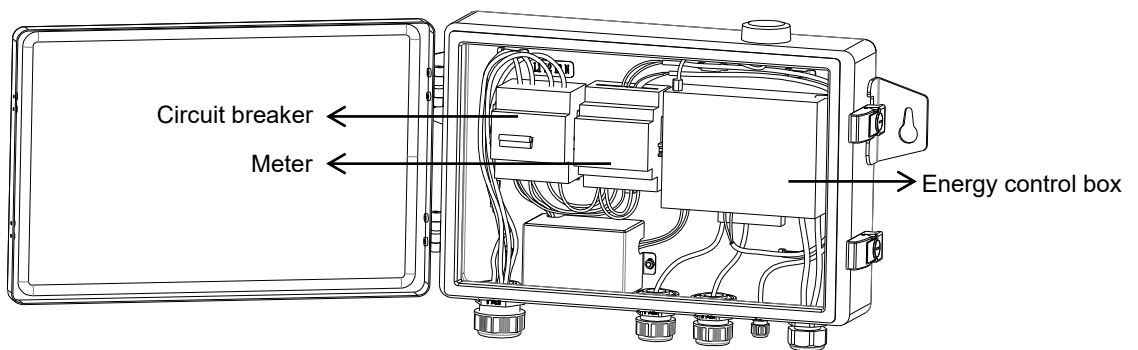

Figure 5-6
- EMB-100 should be placed in a fixed place indoors / outdoors, as shown in Figure 5-6.